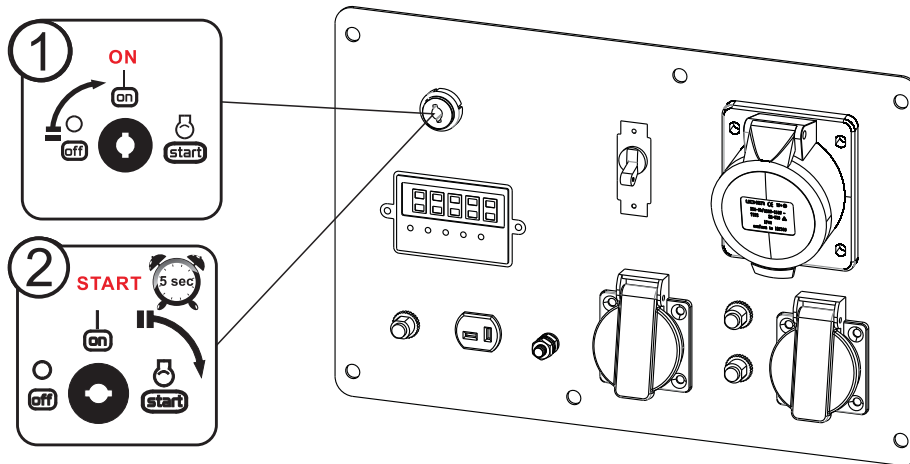

Fig 9
## How to Start Engine (See Fig 9)
- Turn the START/ON/OFF switch (Key) to the "START" position to attempt to start the Engine. Engine cranks and fails to start within 15 seconds wait about 1 minute before attempting to start again.(see fig 9)
In the cold weather, the engine is difficult to start, press the heater button 10-20 seconds after the release, and then repeat the action FIG 9, You can easily start the engine.